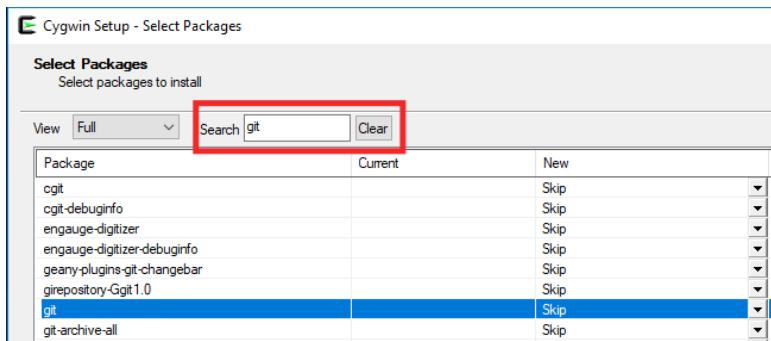

Figure 88. Look for the `git` package
- Look for the `git` package in the **Search** box (Figure 88).